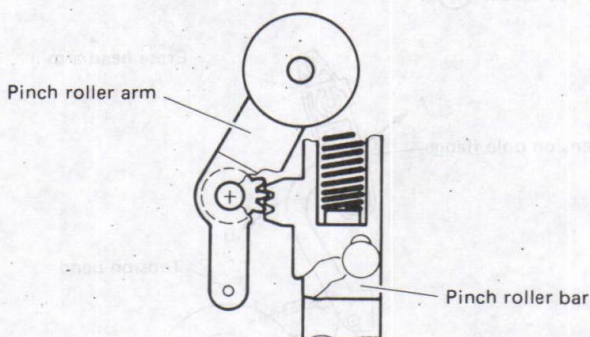

Fig. 2-5 Pinch roller arm
1. In the Stop mode, confirm the relative positions, particularly the engagement of the gear teeth, of the pinch roller arm and pinch roller bar as indicated in Fig. 2-5.